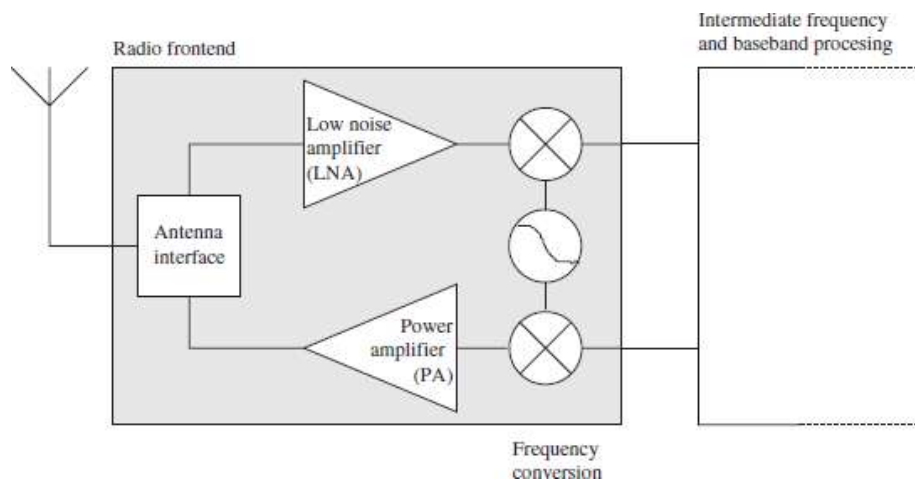

Figure 2.3 RF Front end
- **Choice of transmission medium:** The communication device is used to exchange data between individual nodes. In some cases, wired communication can actually be the method of choice and is frequently applied in many sensor networks. The case of wireless communication is considerably more interesting because it includes radio frequencies. Radio Frequency (RF) - based communication is by far the most relevant one as it best fits the requirements of most WSN applications.
- **Transceivers:** For Communication, both transmitter and receiver are required in a sensor node to convert a bit stream coming from a microcontroller and convert them to and from radio waves. For two tasks a combined device called transceiver is used. Transceiver structure has two parts as Radio Frequency (RF) front end (Figure 2.3) and the baseband part.